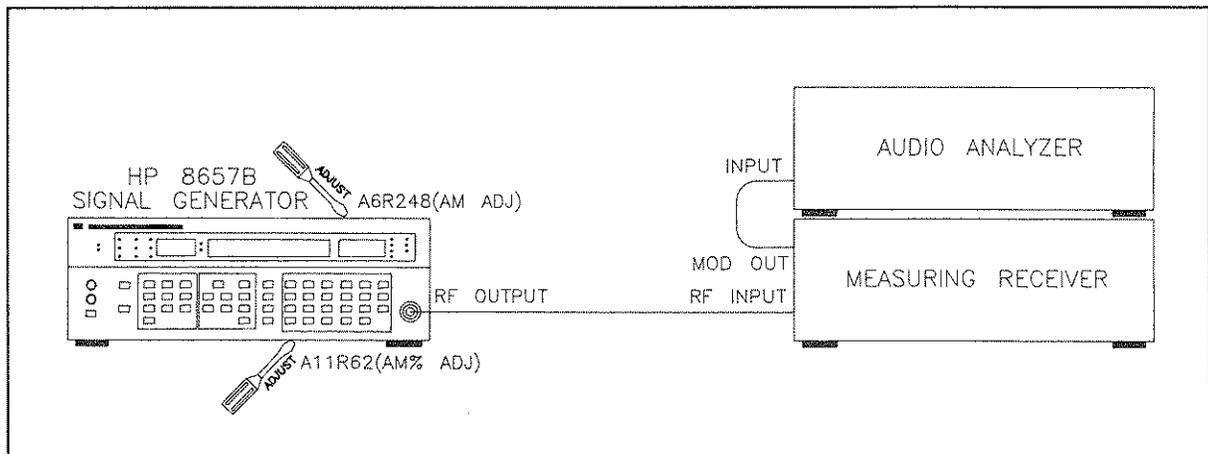

Figure 5-18. AM% and ALC Loop AM Adjustments Setup
3. Connect the measuring receiver to the RF OUTPUT connector on the HP8657B and connect the distortion analyzer as shown in Figure 5-18.